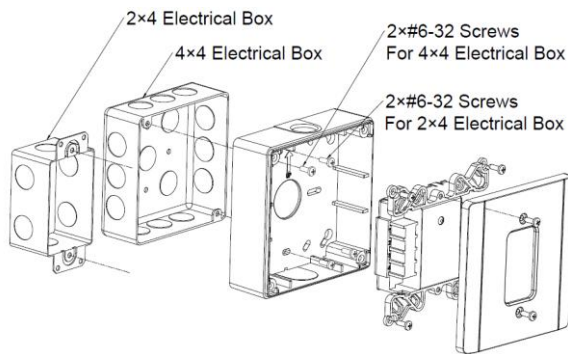

Figure 1 Installation Diagram
- Mount the base, FW800, onto a 2X4 or 4x4 electrical box using the screws provided, as illustrated in Figure 1.